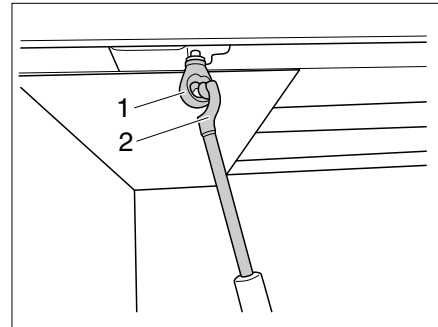

Fig. 154 Height adjustment
- Insert the crank (Fig. 154,2) into the height adjustment lug (Fig. 154,1).